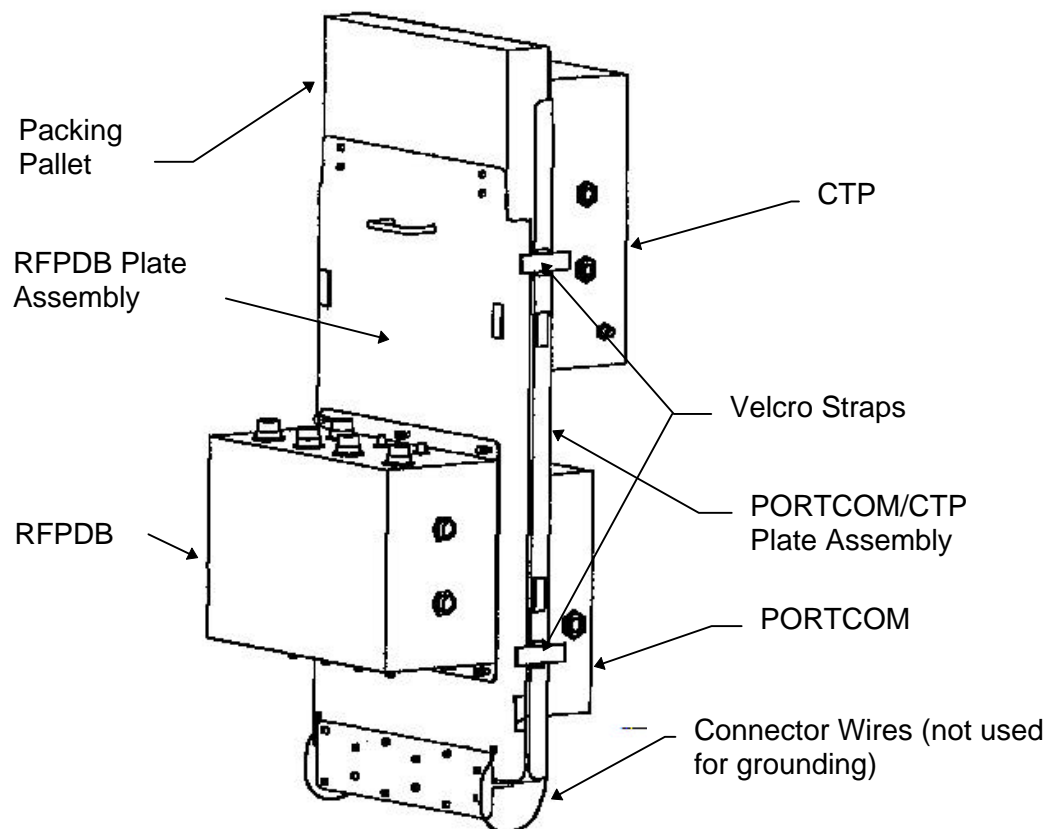

Figure 1.- Early Comm hardware in stowed configuration.
6. Release Velcro straps on both sides of plate assemblies (four). See Figure1.